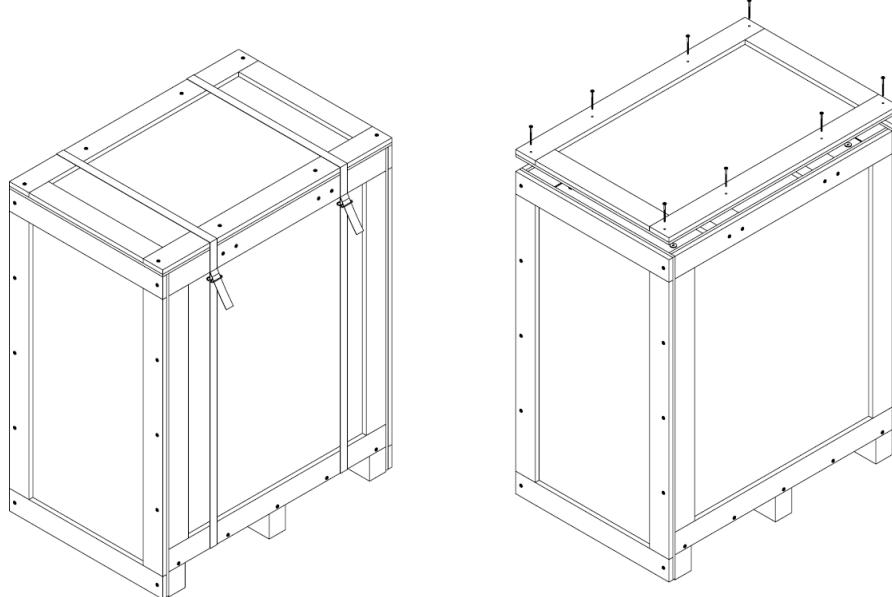

Figure 4-1: GSPS Unpack – Disassemble Top Cover, Accessories Box
1. Open the packing box as instructed in Figure 4-1 by remove the straps from the packaging box.